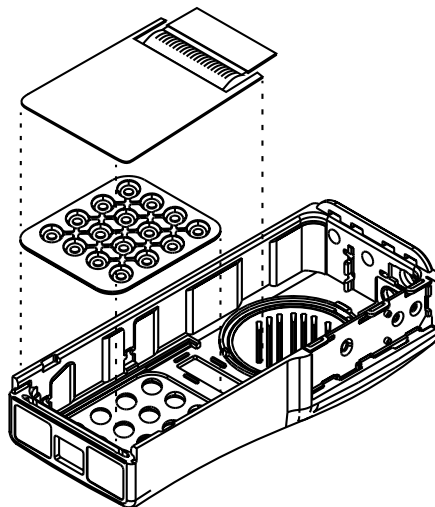

Figure 1-9. Place Keypad Into Front Housing
2. Place the keypad into the front housing (Figure 1-9).
3. Place the board on the keypad in the housing (Figure 1-9).